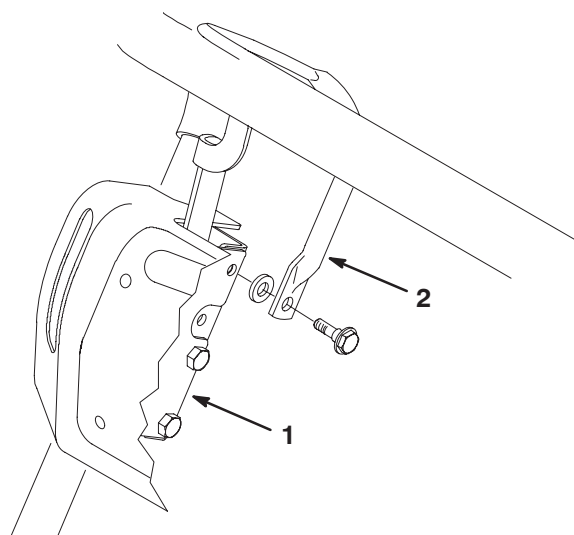

Figure 3
1. Remove screw securing top of right and left console brackets to handle (Fig. 3). Discard screws.